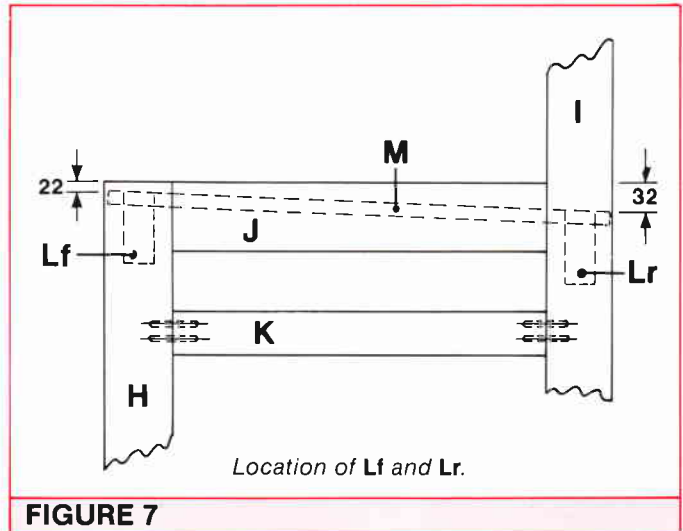

FIGURE 7
**2** Use your dowelling jig to drill the dowel holes needed in the frame components. **Figure 7** (**K** joined to **H**) shows typical dowel locations - they should be evenly spaced and on the centreline of the edge of your material. Mark
If you have not already done so, prepare the dowel holes in L and their mating locations in H & I. Note the exact locations of the front and rear support rails (designated Lf and Lr) in Figure 7.